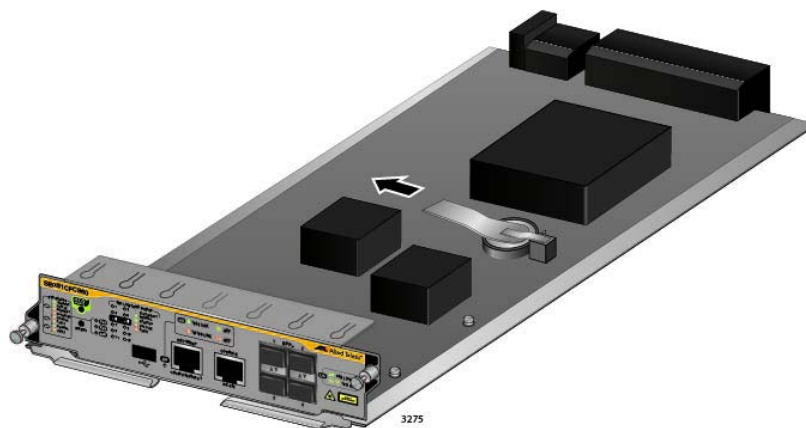

Figure 69. Removing the Battery Insulator
- Carefully remove the battery insulator tab on the controller card by sliding it out from between the battery and battery clip, as shown in Figure 69 on page 142.